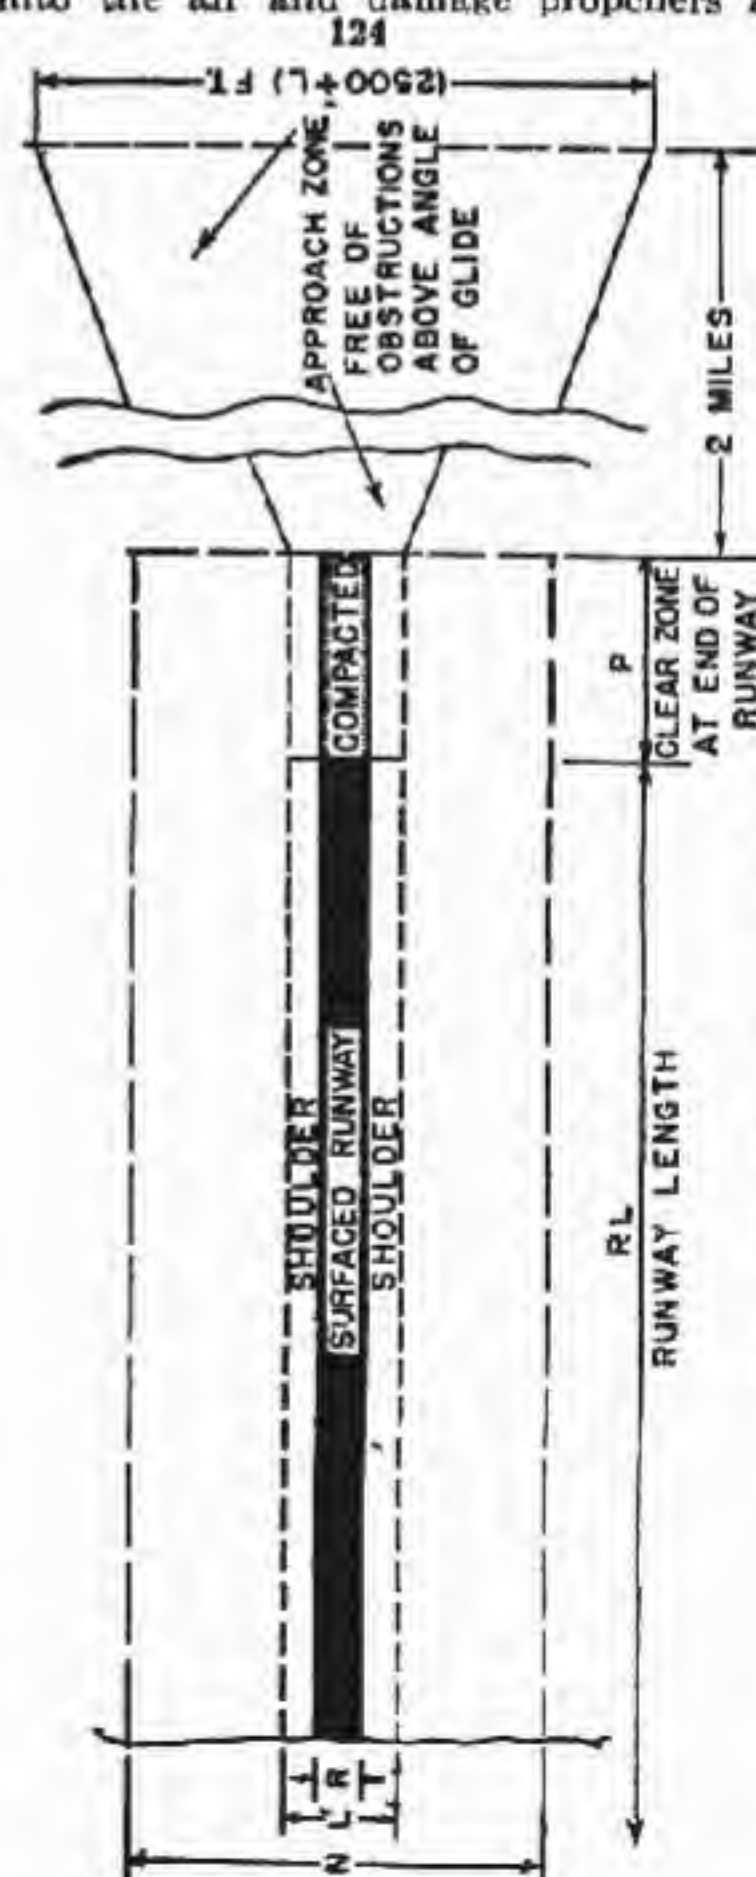

FIGURE 130.—Diagram of typical runway area.
1. **Runway.**—Paved or surfaced strip located in the center of a landing strip. (See figs. 130 and 131.)